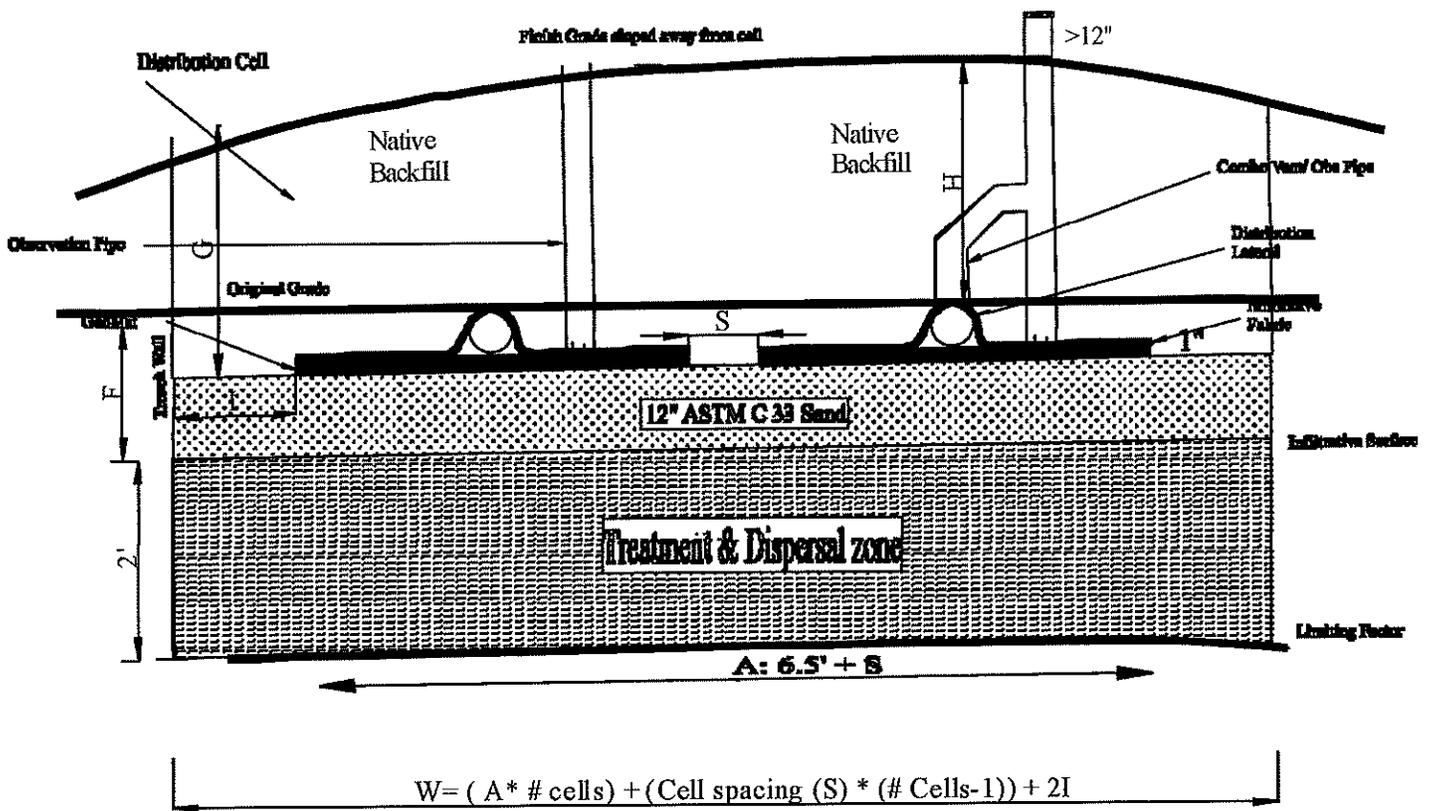

Figure 4 Height of system using GeoMat
The distribution cell height provides effluent storage, oxygen transfer and support of the piping within the distribution cell. The minimum height of the distribution cell, when GeoMat is used in gravity distribution components is 15-17 inches. Or Psi distribution is 13 inches plus nominal pipe size. See Figure 4.
A minimum of 12" of cover material must be placed over the top of pipe. Finished grade of the cover material must be at or above the surrounding land surface elevation. Depressed areas over the distribution cell that collect and retain surface water runoff must be avoided. H must be 12" across entire cell. And 12" above ASTM c 33 sand (G) where not over Cell. See figure 4.